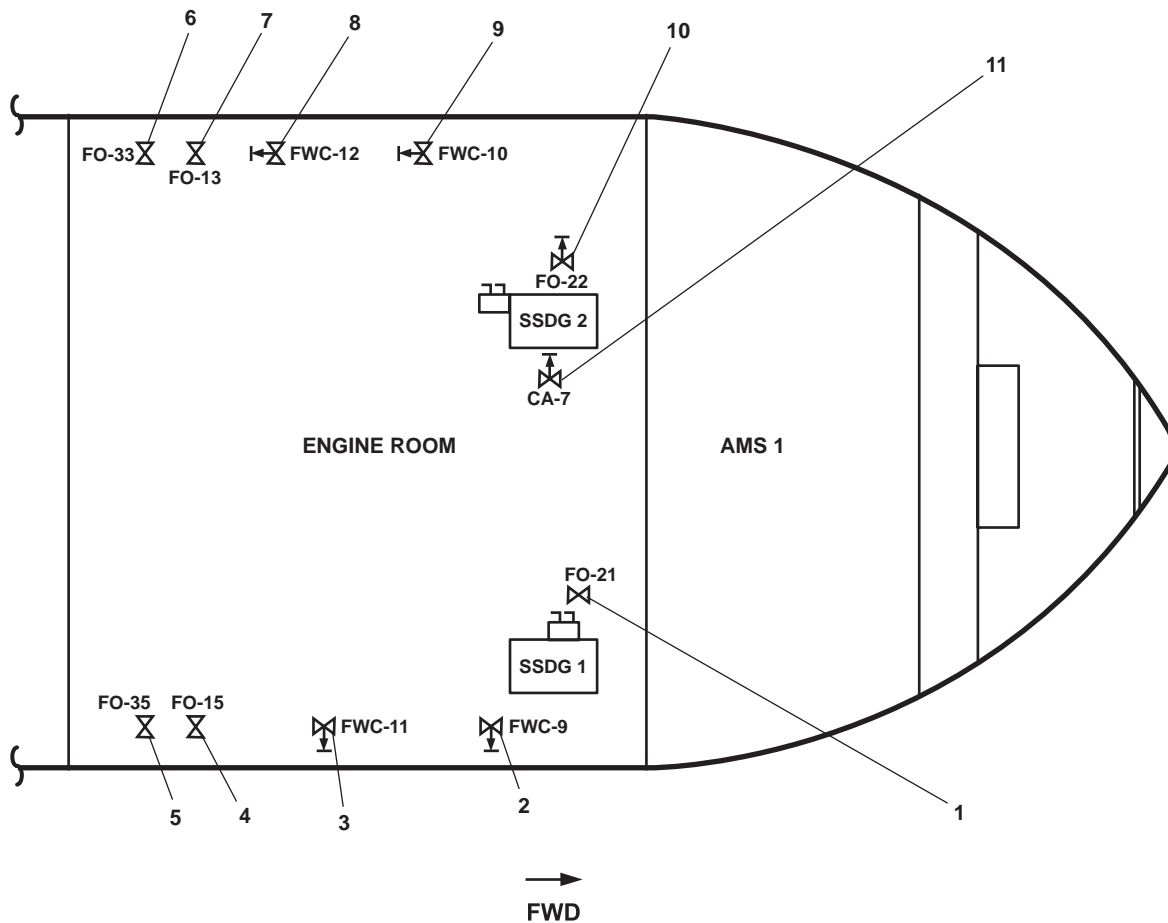

Figure 3. SSDG Valve Locations
- (6) FO-15, F.O. SERV. SUCT. STBD (figure 3, item 4)
- (3) FO-33, F.O. RTN TO DAY TK. PORT (figure 3, item 6)
- (4) FO-13, F.O. SERV. SUCT. PORT (figure 3, item 7)
- (5) Fwc-12, F.W. FR. S.S.D.G. No. 2 TO KEEL CLR. (figure 3, item 8)
- (6) Fwc-10, F.W. FR. KEEL CLR TO S.S.D.G. No. 2 (figure 3, item 9)
- (7) FO-22, F.O. SPLY TO S.S.D.G. No.2 (figure 3, item 10)
7. To secure starting air, CLOSE valve CA-7, STG AIR TO DSL GEN (figure 3, item 11).